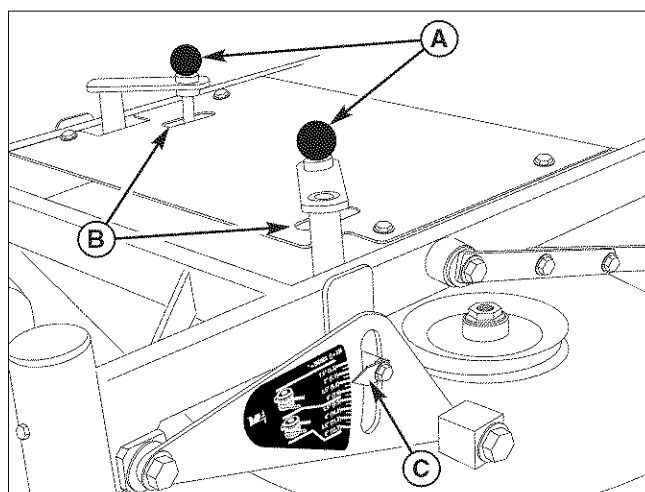

Figure 10. Remove the Cutter Deck Guard
1. Pull the cutting height adjustment handle (A, Figure 10) up and out of the handle lock position (B) and crank the handle CLOCKWISE to raise the deck to the desired cutting height. Crank the handle COUNTER-CLOCKWISE to lower the deck to the desired cutting height. After the desired cutting heights are achieved position the cutting height adjustment handles into the handle lock position.